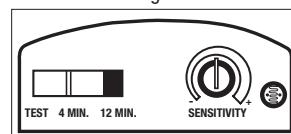

Fig. 7
- Move slide switch on bottom of the sensor to "TEST". Set sensitivity knob to medium (halfway) (Fig. 7).